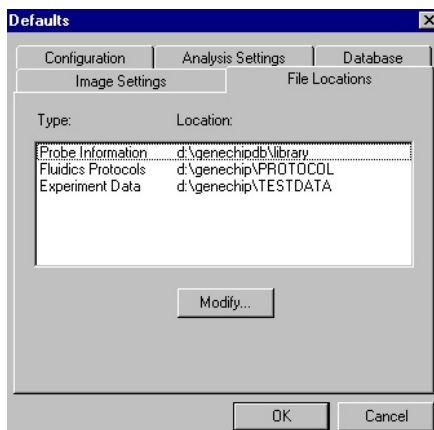

Figure 4.1 Defaults dialog box, File Locations tab.
2. Click the **File Locations** tab (Figure 4.1).